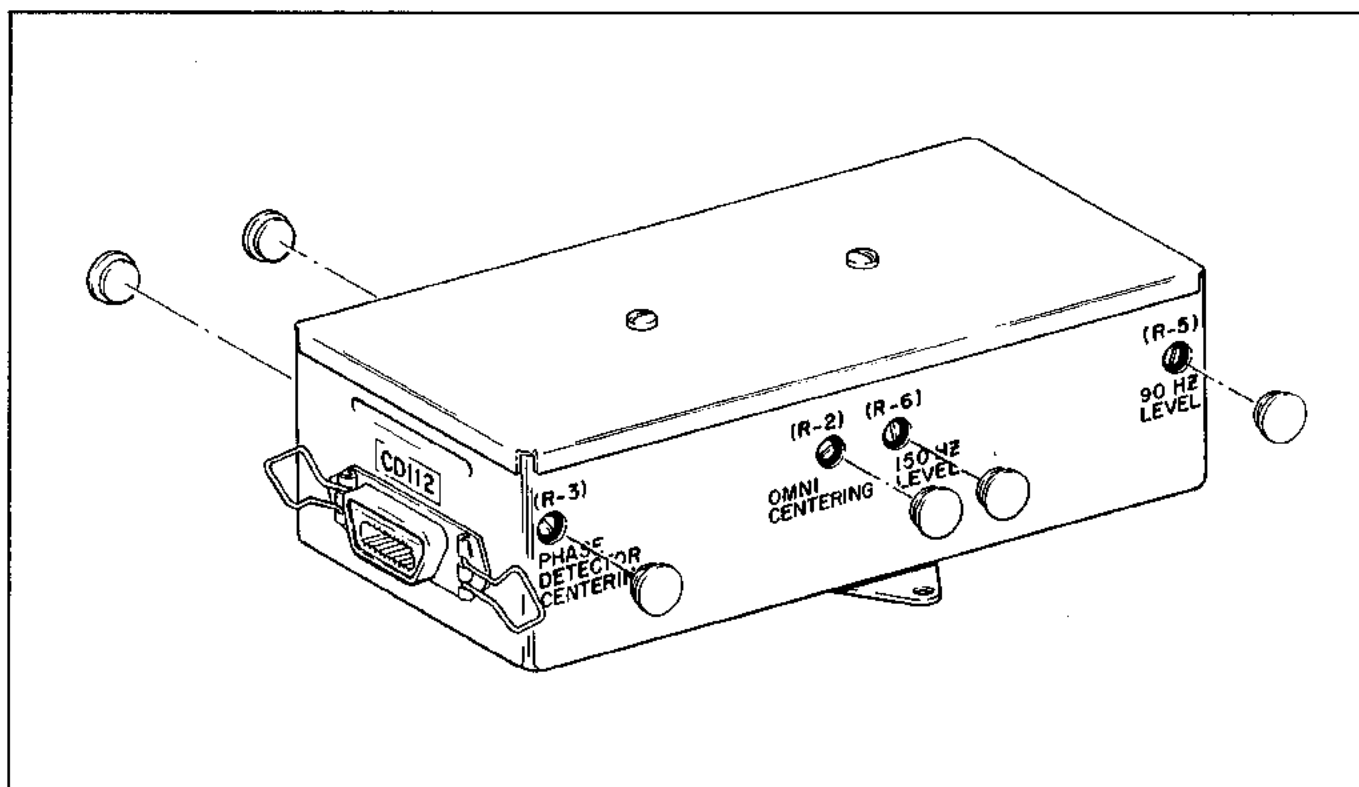

Figure 3-21. AltiMatic III C, NAV Converter (1C707)
**3-30. INSTALLATION OF NAV CONVERTER (1C707). (PA-23-250 Six Place) E & F Models. (Refer to Figure 3-21.)**